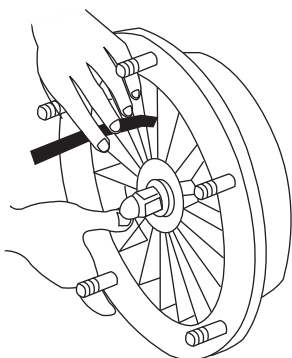

Fig. 32 Impeller–casing clearance
1. Measure the clearance between the impeller and the casing using a leaf feeler gauge (Fig. 32, "Impeller–casing clearance").